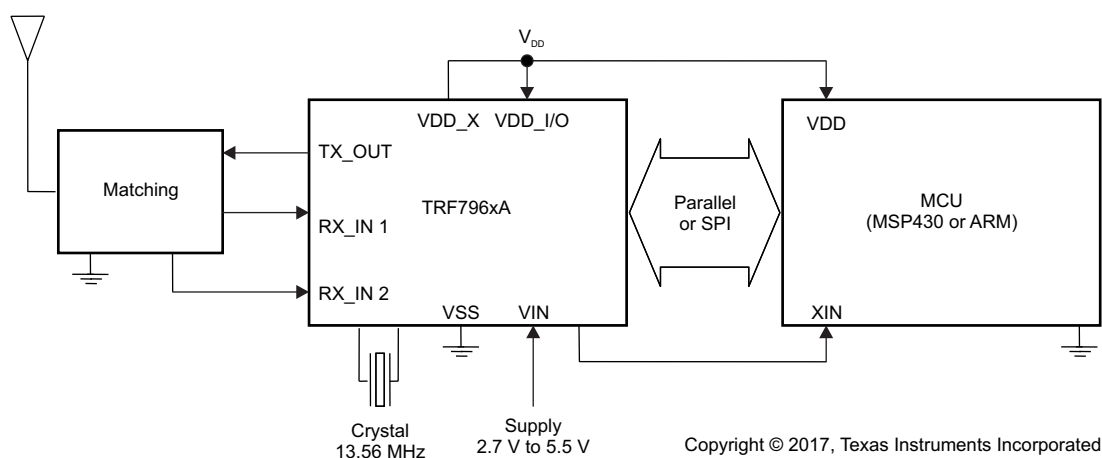

Figure 1-1. Application Block Diagram
Figure 1-1 shows a typical application block diagram.
- Changed "NFC Forum Device Types 1 to 4" to "NFC Forum Device Types 1 to 5" in the first list item in Section 1.1, Features 1 - Corrected typo in first Features bullet (changed NFC Forum Type 1 to Type 2)..... 1 - Updated list of applications 1 - Updated the content of Section 1.3, Description 1 - Moved Figure 1-1, Application Block Diagram, to Section 1.4 and removed functional block diagram (see block diagram in Section 6.1) 2 - Added Section 3, Device Characteristics, and moved Table 3-1 to it 5 - Added Section 3.1, Related Products 5 - Changed the TYP value of the f_{D_CLKmax} parameter from 8 MHz to 4 MHz in Section 5.4, Electrical Characteristics ... 9 - Removed the sentence " This mechanism must be used to avoid reading holes" in the paragraph that starts "The default MUX setting is RX_IN1 connected..." in Section 6.6.1, Main and Auxiliary Receiver..... 17 - Removed paragraphs starting with "The main receiver also has a second receiver gain..." and "By default, the AGC is frozen..." in Section 6.6.2, Receiver Gain and Filter Stages 17 - Changed B1 and B0 to Reserved in Table 6-4, RX Special Setting Register (0x0A) 18 - Updated the first four paragraphs of Section 6.7, Receiver - Digital Section 18 - Updated the first three steps in the procedure that follows "To check the internal or external RSSI value..." in Section 6.7.1.2, External RSSI 21 - Changed the title of Table 6-5 from Minimum Crystal Requirements to Minimum Crystal Recommendations and removed the ESR row 22 - Updated the list that follows "There are two ways to start the transmit operation" in Section 6.10, Transmitter - Digital Section 23 - Updated the description in Section 6.11, Transmitter – External Power Amplifier or Subcarrier Detector 23 - Updated the paragraph that starts "If the received packet is longer than 8 bytes..." in Section 6.12.4, Reception of Air Interface Data..... 30 - Updated the paragraph that starts "TI recommends resetting the FIFO after..." in Section 6.12.6.2, Serial Interface Mode With Slave Select (SS) 37 - Corrected the Reset FIFO command name (added "FIFO") in Table 6-11, Command Codes 42 - Corrected Reset FIFO command name in the title of Section 6.13.2, Reset FIFO (0x0F) 42 - Removed former Section 6.13.12, Receiver Gain Adjust (0x1A) 44 - Moved Section 6.14, Register Description 45 - Removed "AGC" from the description of the register in Section 6.14.1.1.1, Chip Status Control Register (0x00) 46 - Changed B2 to Reserved in Table 6-16, Chip Status Control Register (0x00) 46 - Changed B1 and B0 to Reserved in Table 6-27, RX Special Setting Register (0x0A) 53 - Removed the description of AGC in Section 6.14.1.2.9, RX Special Setting Register (0x0A)..... 53 - Changed "High nibble" to "Middle nibble" in description of B3:B0 in Table 6-40, TX Length Byte1 Register (0x1D).. 60 - Changed "High nibble" to "Low nibble" in description of B7:B4 in Table 6-41, TX Length Byte2 Register (0x1E)..... 61 - Moved and changed title of Section 7, Applications, Implementation, and Layout 62 - Deleted former section Reader System Using Parallel Microcontroller Interface in Section 7, Applications, Implementation, and Layout 62 - Updated Figure 7-1, Application Schematic, SPI With SS Mode MCU Interface 62 - Updated the paragraph that starts "Minimum MCU requirements depend on application requirements..." in Section 7.1.2, Schematic..... 62 - Moved Section 7.2, System Design..... 63 - Added Section 8.1, Getting Started and Next Steps 65 - Added Section 8.2, Device Nomenclature 65 - Added Section 8.3, Tools and Software..... 66 - Updated Section 8.4, Documentation Support 66